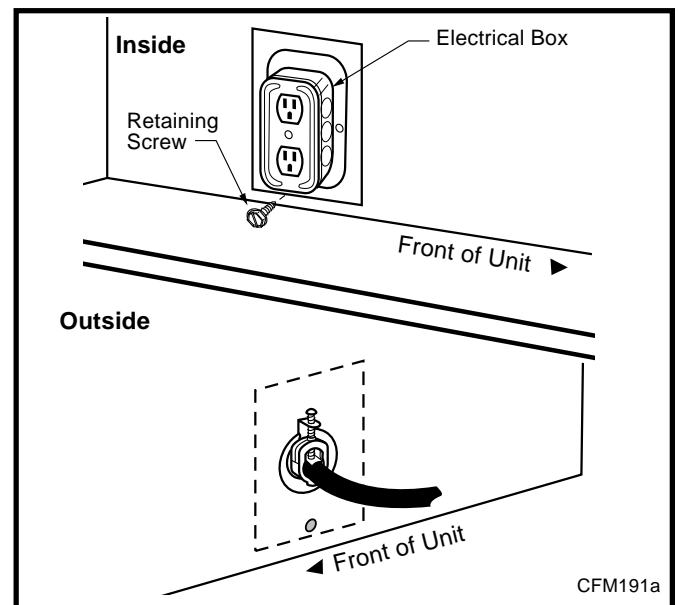

Fig. 44 EB-1 receptacle.
1. Unscrew the retaining screw from the plate and remove from the appliance. (Fig. 44)
4. Feed the supply line in through the EB-1 opening in the side of the appliance and then through the back of the EB-1 assembly. (Fig. 44)